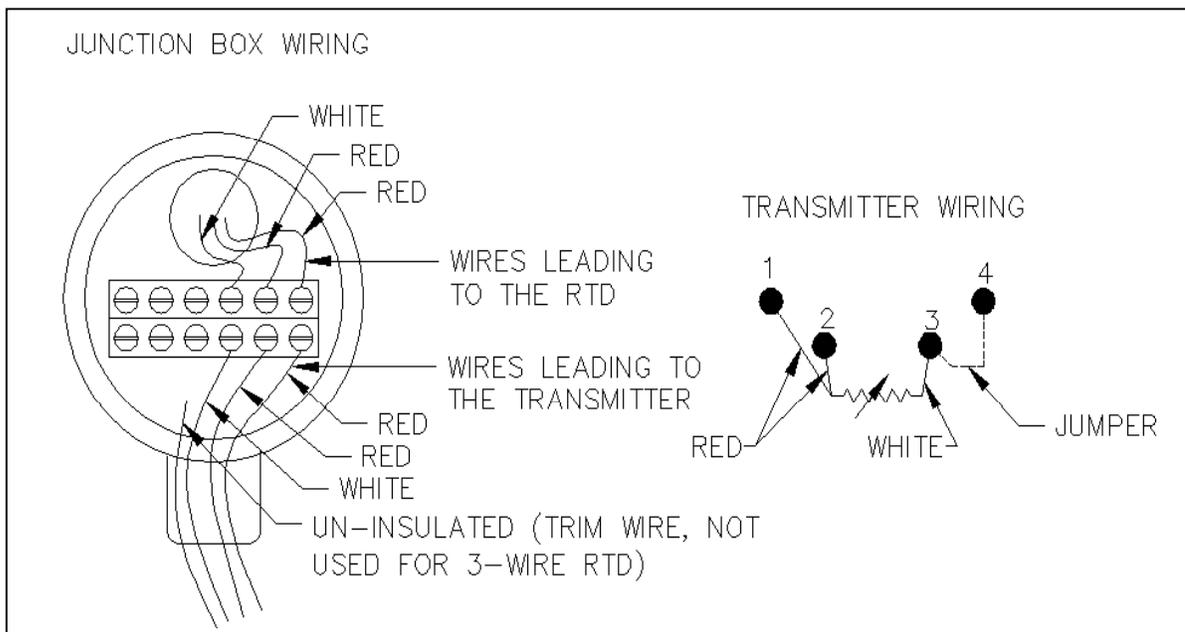

Figure 10. Wiring Diagram of 3-Wire Junction Box and Transmitter
- 5) If a cable is supplied, thread it into the junction box and hook up the wires, red-to-red, red-to-red, and white-to-white, refer to Figure 10. Clip the drain wire (uninsulated) off at the base. R, P and T heads are typically not supplied with a cable.